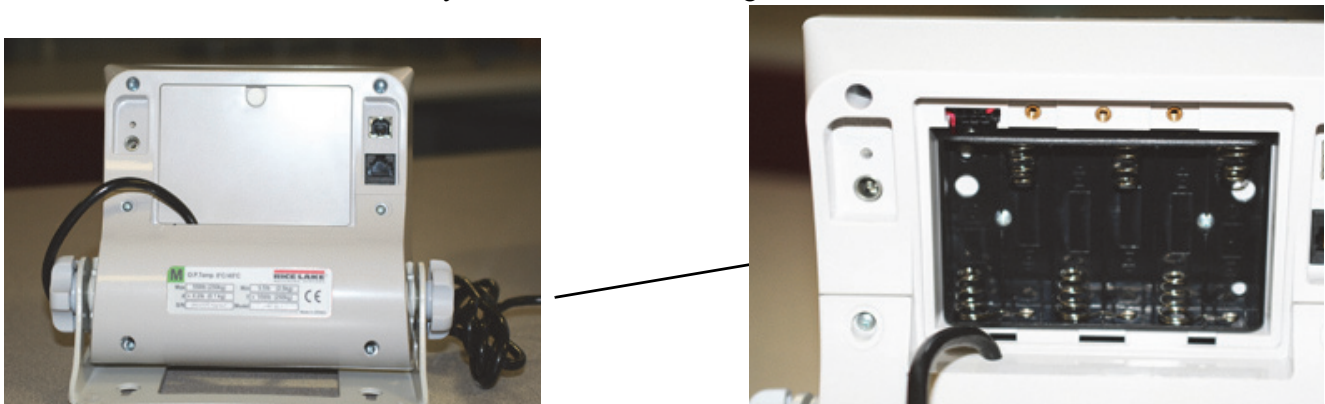

Figure 4-4. Battery Chamber
2. Insert batteries into the battery chamber as shown in Figure 4-4.